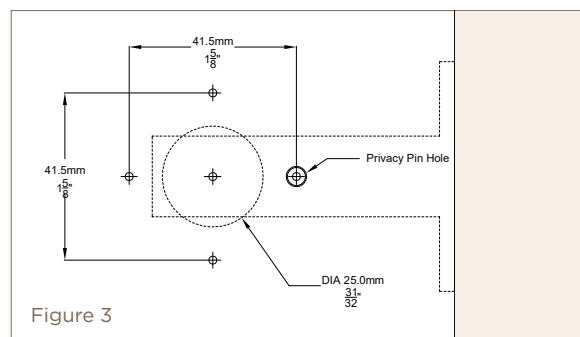

Figure 3
4. With the door held securely drill the hole in the edge of the door using a D25mm or 1" spade bit. Make sure you drill deep enough to accommodate the tube latch privacy inbuilt (A).
*Note: the hole closest to the door edge will need to be a D5mm or ³/₁₆" to accommodate the privacy pin (I). If using connector bolts for your Iver door lever on rose fixings (not wood screws), the remaining three holes can be 5mm or ³/₁₆". Figure 3.